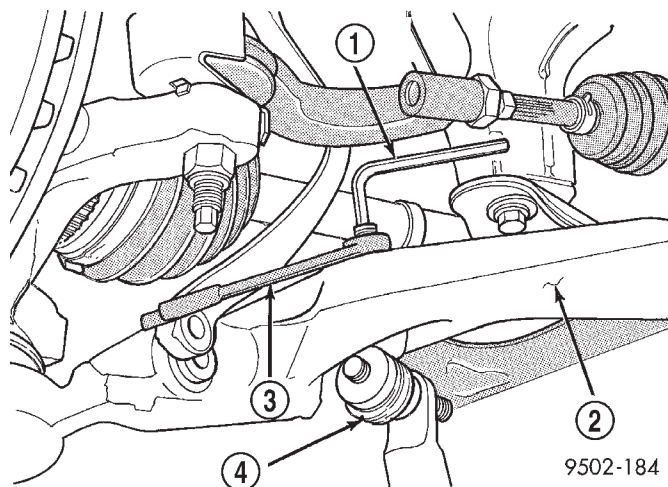

Fig. 48 Removing/ Installing Nut From Stud Of Stabilizer Link
(8) Remove nut attaching the stabilizer bar link to the lower control arm (Fig. 48). When removing nut, hold stud of stabilizer bar link from turning by inserting an allen wrench in the end of the stud (Fig. 48).
(8) Install and securely tighten the stabilizer bar link to lower control arm attaching nut to a torque of 102 N·m (75 ft. lbs.). When tightening and torquing attaching nut, hold stud of attaching link from turning with an allen wrench (Fig. 48).